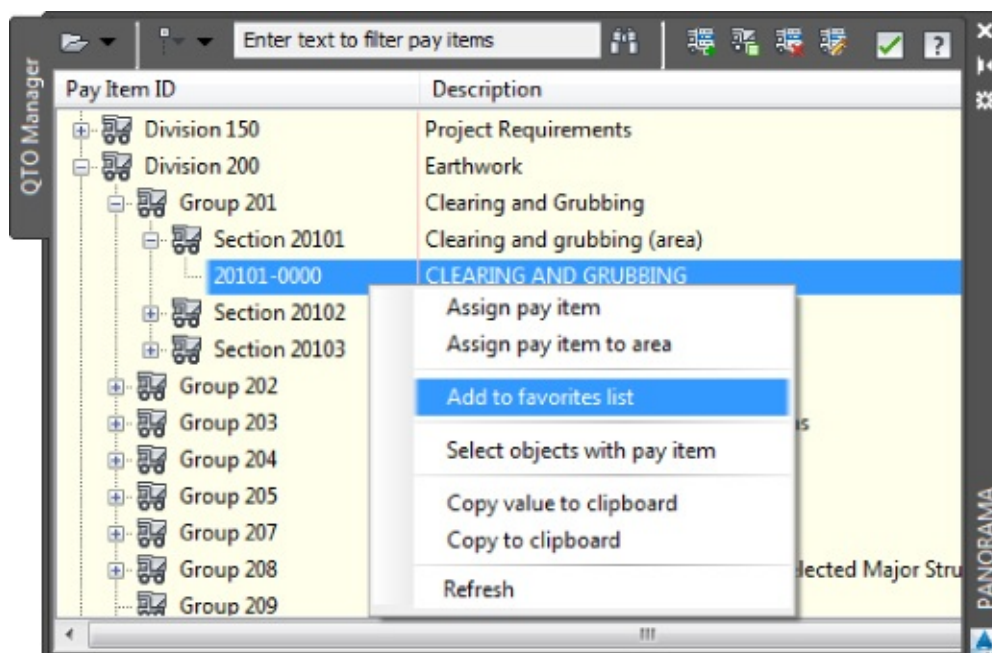

Figure 17.4 Selecting a pay item to add as a favorite
13. Expand the Division 200 > Group 201 > Section 20101 branches, and select the item 20101-0000 CLEARING AND GRUBBING. You may need to widen the Pay Item ID column.
14. Right-click and select Add To Favorites List, as shown in Figure 17.4.